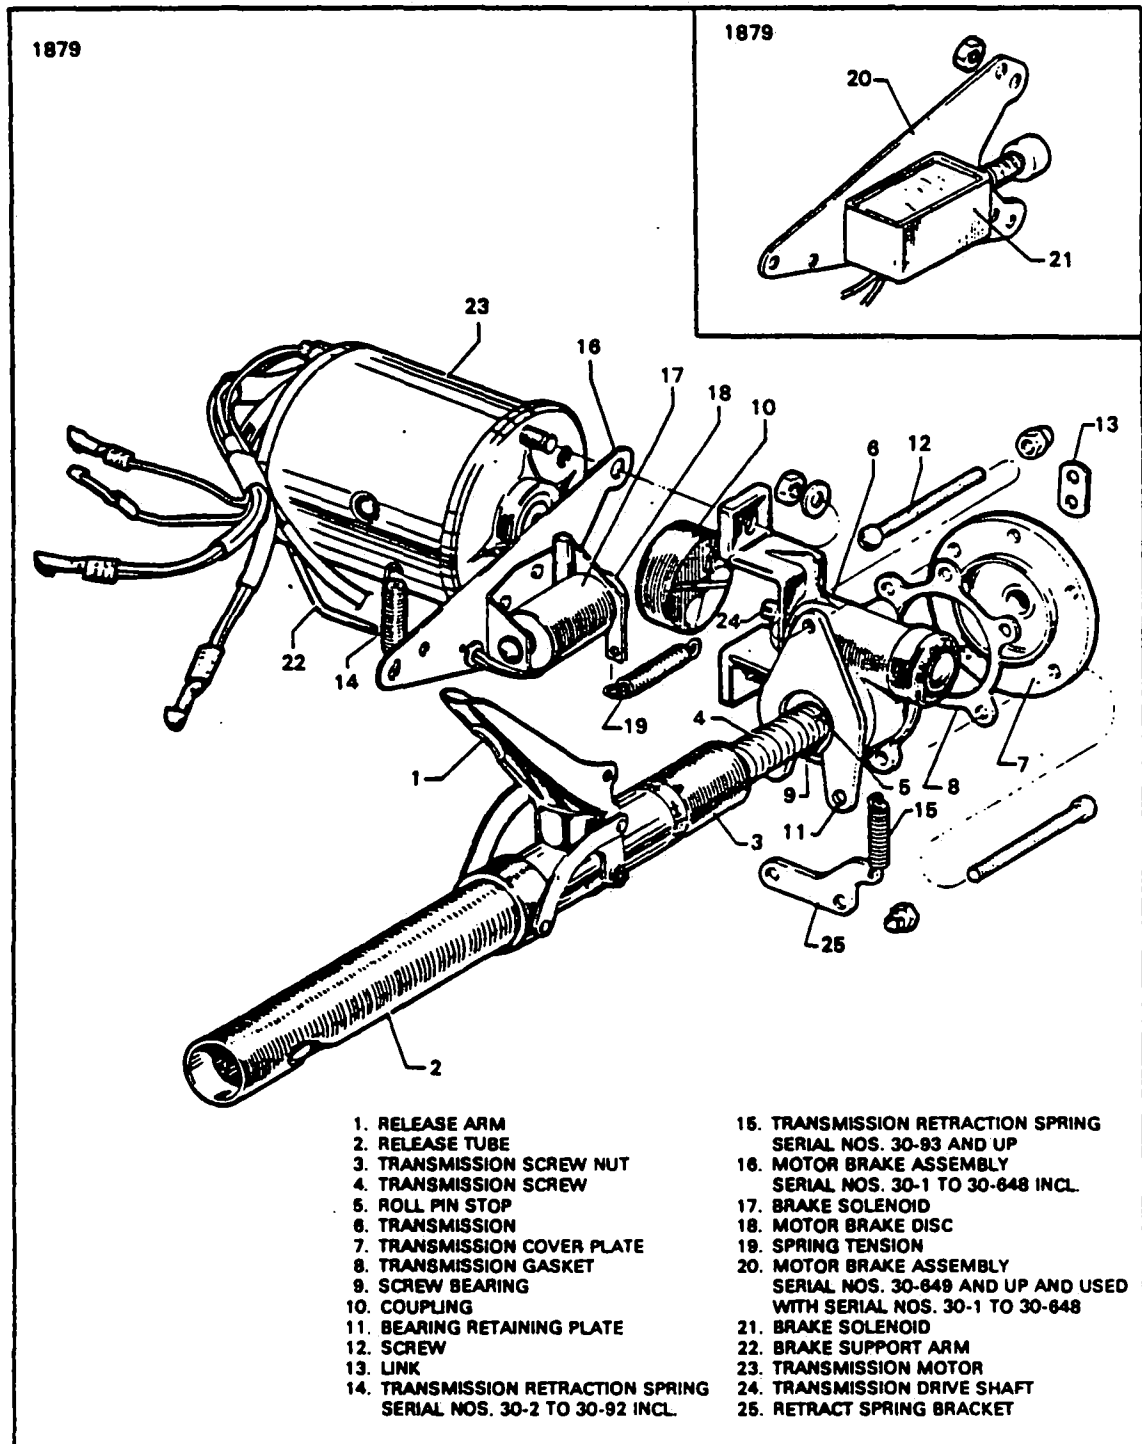

Figure 7-13. Landing Gear Retraction Transmission Assembly
4. Place the emergency retraction release handle (18) in the full up position.
6. Remove the cotter pin, washer and pin (12) attaching the transmission housing to the mounting bracket.
**7-35. CLEANING, INSPECTION AND REPAIR OF GEAR RETRACTION TRANSMISSION.** (Refer to Figure 7-13.)
- a. Remove the six screws attaching the transmission cover (7) to transmission housing and remove the cover noting the position of the mounting lug.
- b. Wipe the old grease from the transmission housing and from the actuator screw (4) and screw nut (3).
- c. Check the gear release arm (1) and ascertain that it will snap lock in place and will require a load of 6 to 12 pounds applied at the end of the arm to release. Adjust by spreading or compressing the arm sides at the round head rivets to obtain proper fit. Once the arm is released, ascertain that there is no binding through its travel.
- d. Inspect the transmission screw and tube nut (2) for end and side play and ascertain that they are not distorted or bent.
- e. Check that the screw bearing (9) is not loose on the transmission screw or within the transmission housing. A loose bearing can be determined by holding the transmission and moving the screw up and down. This check can also be made when the transmission is installed in the airplane, with the landing gear partially retracted, by applying a load to the emergency extension handle and noting play.
- f. Check for wear within the transmission by turning the transmission screw (4) by hand and noting end play in the transmission drive shaft (24). End play usually indicates a worn thrust bearing or a loose connection between the thrust bearing and drive shaft. If end play is in excess of 0.015 of an inch, the transmission should be replaced.
g. The coupling (10) between the transmission and motor may become worn to a point where the metal inserts in the coupling protrudes from the rubber, thus causing chatter. This chatter may be eliminated by grinding the metal inserts until they are 0.010 to 0.015 of an inch below the surface of the rubber. This grinding operation may be repeated until the coupling reaches a minimum diameter of one inch and then should be replaced.
h. Adjust the motor brake (20) (early type) by adjusting the nut on the brake support rod (22) until the brake disc (18) clears the highest point on the retraction transmission coupling. Hold the brake disc firmly against the brake solenoid while making this adjustment.